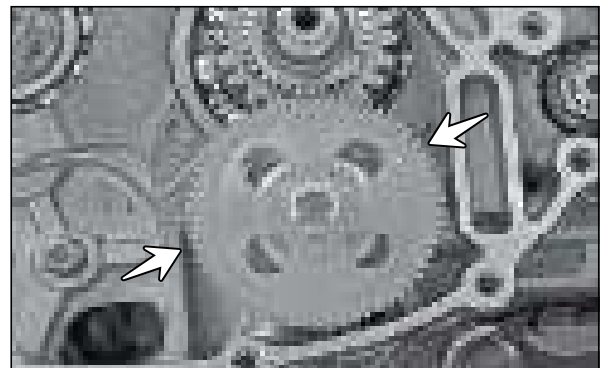

Fig. 4.41
- The pump assembly oil is mounted on the right side crankcase, just below the gear primary drive. (Fig. 4.41)